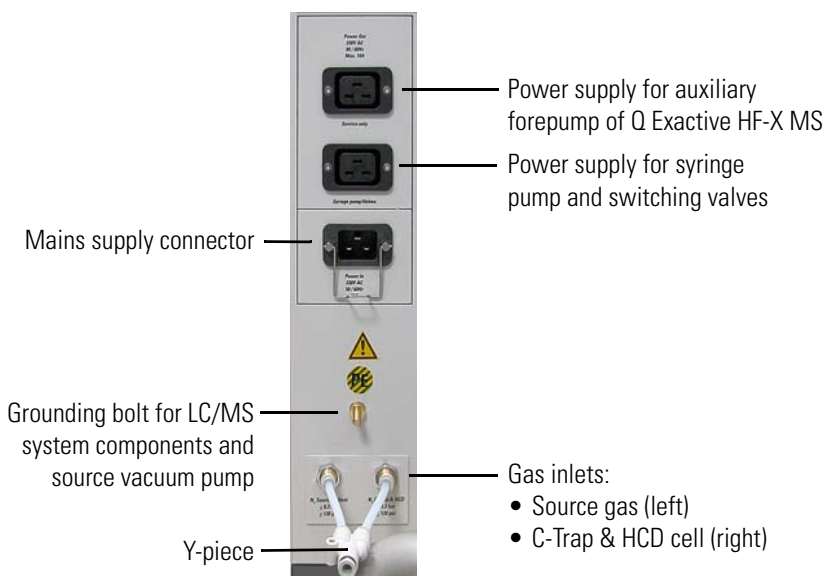

Figure 5-6. Power and gas connections of Exactive Series MS
The components of the data system (computer, monitor, and Ethernet switch) and the devices of the LC system require wall outlets at a nominal voltage of 230 V AC or 120 V AC, 50/60 Hz. Electric power for the syringe pump, the switch valve(s), and the auxiliary forepump is supplied by the MS. See Figure 5-6.
Exactive Series mass spectrometers require high-purity ($\geq 99\%$) nitrogen gas for the API sheath gas, API auxiliary/sweep gas, C-Trap bath gas, and HCD collision gas. Two gas inlet ports are at the bottom of the power column at the rear side of the instrument. See Figure 5-6 on page 5-10.
2. Insert the opposite end of the Teflon tubing into the press-in fitting of the Y-piece that is attached to the gas ports at the rear side of the instrument. See Figure 5-6. To connect the tubing, align the Teflon tubing with the opening in the fitting and firmly push the tubing into the fitting until the tubing is secure.